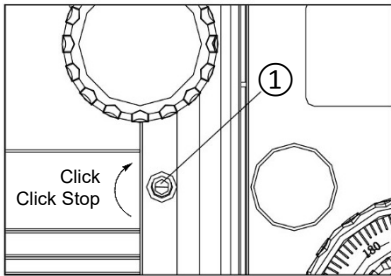

Fig. 17
Changing the Click/Click Stop Feature (Fig. 17)
To turn on the Click feature to click at each magnification value, using a 3mm hex wrench, turn the Click/Click Stop screw ① clockwise as shown by the arrow in Fig. 17.